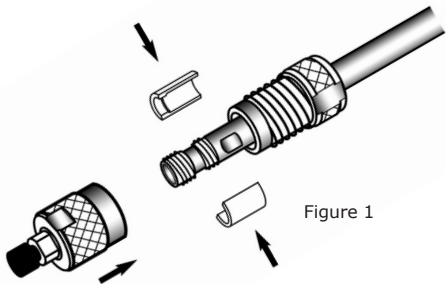

Figure 1
- 2. Place 2 split collets around the neck of the cartridge as shown in Figure 1.